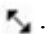

Figure 4-44: An example of a text graph
- SamDraw provides up to 16 underline forms, and you can change the display position of the words in the text box and the filling pattern and transparency. See Figure 4-44.